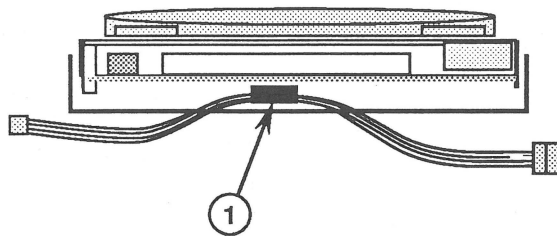

FIGURE 11
3. Slide the cable out of the holding clamp(s) (Figure 11, #1) attached to the mounting frame. (On one type of clamp, you may need to use a small screwdriver to break the adhesive before you can slide the cable out.)
1. Lift up (or open) one side of the holding clamp(s) (Figure 11, #1) that is attached to the mounting frame, and slide the cable into place. Make sure the cable is routed as shown.